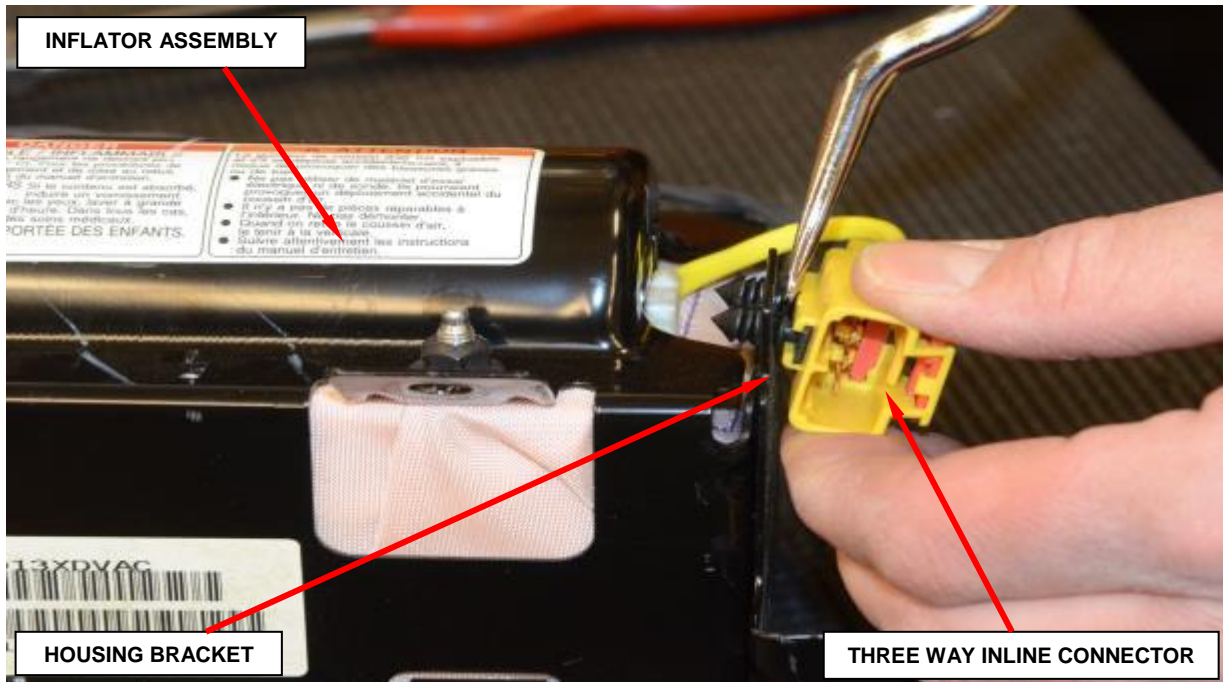

Figure 20 – Yellow Three Way Connector
- d. Remove the yellow three way inline connector from the housing bracket (Figure 20).